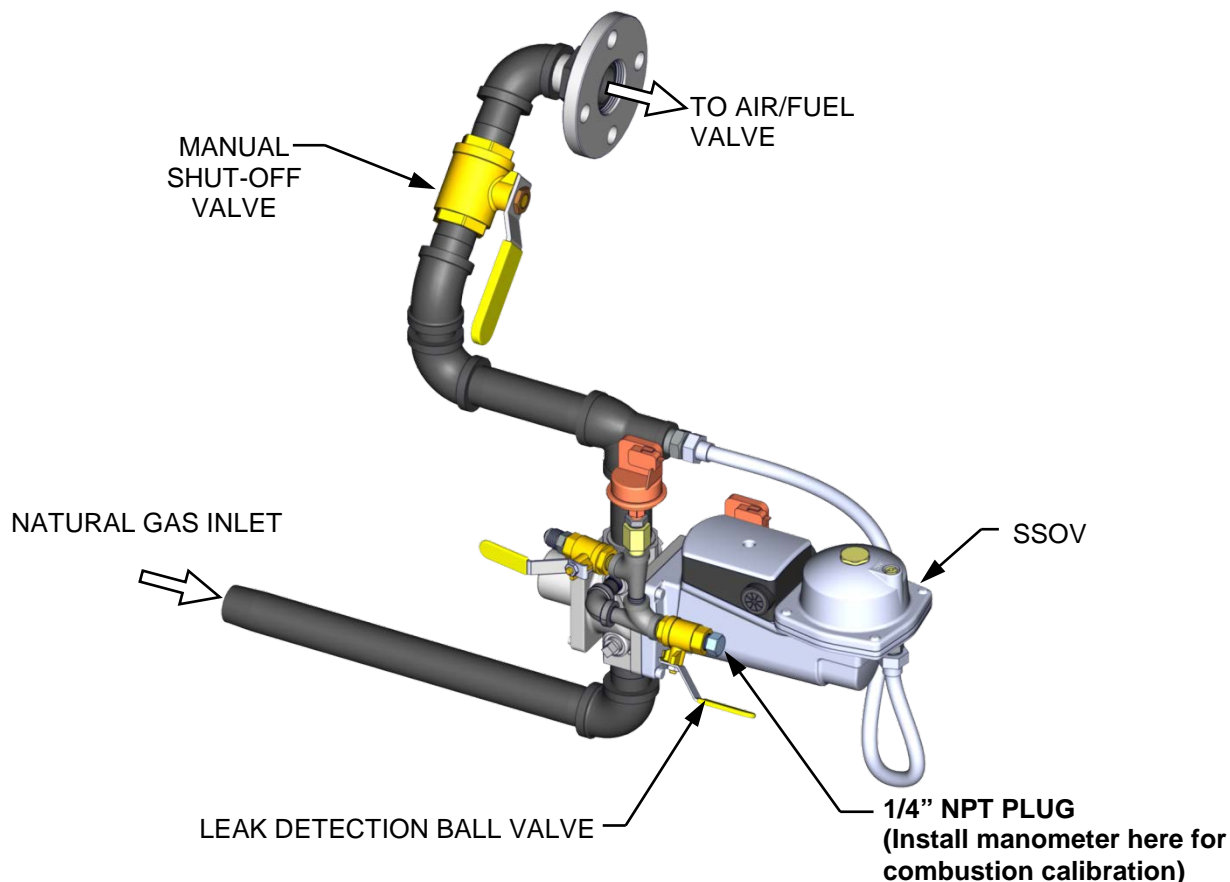

Figure 4-1a: BMK 750 & 1000 1/4 Inch Gas Plug Location (P/N 22140-1)
On Benchmark 750 & 1000 units, a 16" W.C. (4.0 kPa) gas pressure manometer must be installed at the upstream and/or downstream location shown in Figure 4-1a. It will be used to monitor the gas pressure on the downstream side of the SSOV during Combustion Calibration (in Section 4.4, below). Complete the instructions below to install the manometer on BMK 750 and 1000 units.
3. Remove the 1/4" NPT plug from the leak detection ball valve on the downstream side of the SSOV as shown in Figure 4-1a.